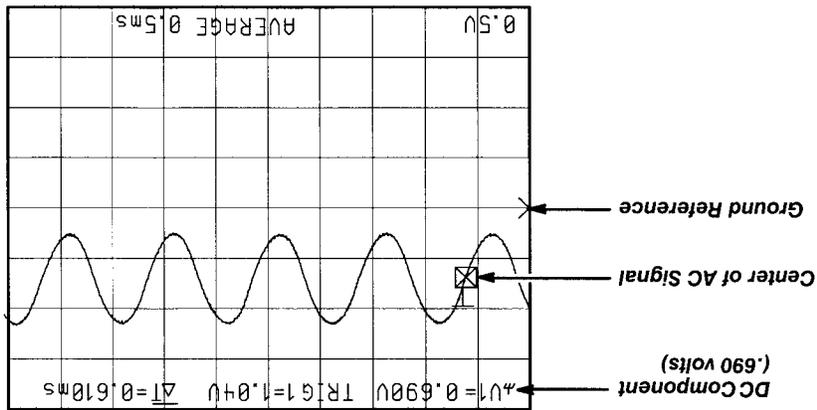
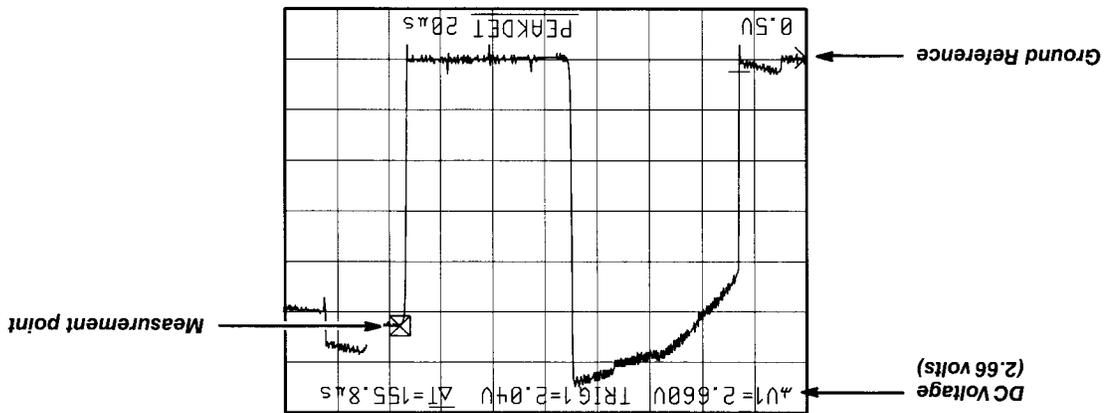

Figure 3-32: DC Component of AC signal
Figure 3-33: Ground-Referenced Voltage Measurement
- Step 4:** Move one of the cursors over to the left side of the display. When this cursor aligns with the ground reference dot the Δ symbol next to the volts readout changes to a ground symbol (Figure 3-32 and Figure 3-33).
When a signal is DC coupled at the input, you can measure DC voltage levels, DC components of an AC signal (Figure 3-32), or other voltage levels in reference to ground (Figure 3-33). The procedure varies slightly depending on whether you use graticule lines or cursors to measure the DC level.